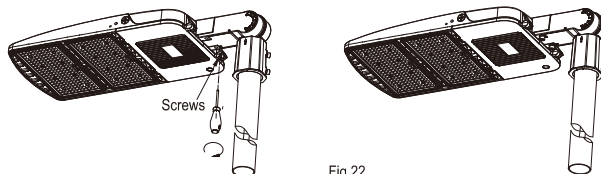

Fig 22
Step 7 . Close the cover and tighten the screws with a screwdriver, as shown in Figure 22